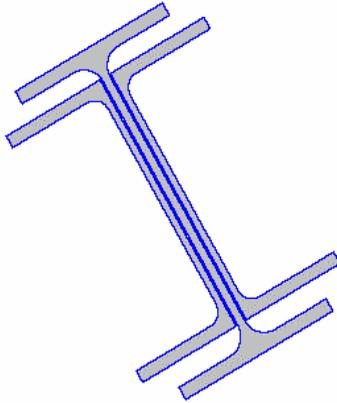

Fig. 69 Section designed
A section (Fig. 69) containing an I-section S5x10 (1) and two channels (2–3) is required.
as a result, the channel will be positioned as shown in Fig. 69 *Section designed*